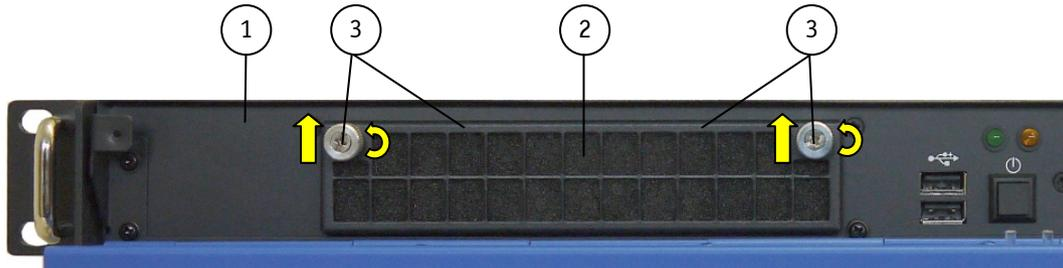
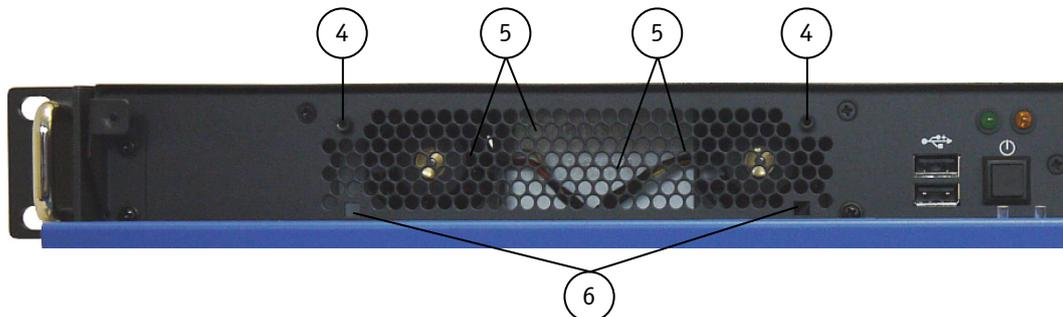
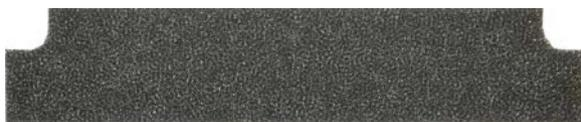
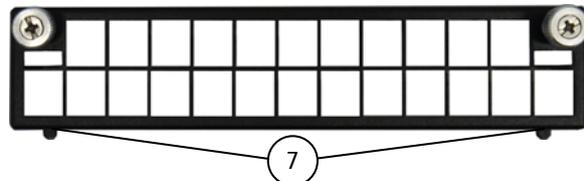

Fig. 21: Detail of the front side - Location of the filter mat
Fig. 22: Detail: front side without filter mat and filter mat holder
Fig. 23: Filter mat
Fig. 24: Filter mat holder
Legend for Fig. 21, Fig. 22 and Fig. 24:
2. Loosen the knurled screw (Fig. 21, pos. 3) that secure the filter mat holder with the air filter mat to the chassis.
3. Pull out the filter mat holder (Fig. 21, pos. 3) into the marked direction.
4. Remove the dirty filter mat (Fig. 21, pos. 2 or Fig. 23).
6. After cleaning and drying the filter mat, replace it into the filter mat holder. Insert the positioning lugs of the filter mat holder (Fig. 24, pos. 7) into the positioning holes (Fig. 22, pos. 6) at the front side of the chassis.